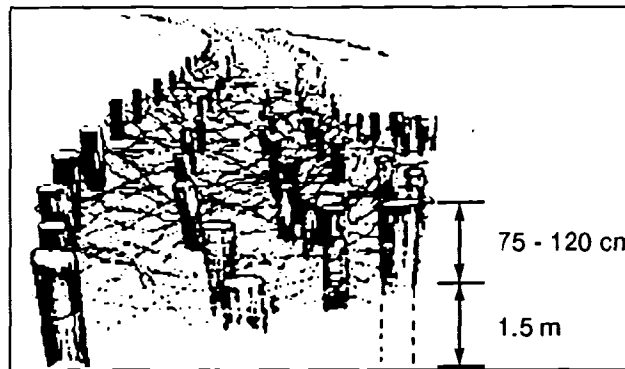

Figure 052-195-3066-11. Log Post Obstacle
- (2) Three logs 25 centimeters in diameter or one log 45 centimeters in diameter are used.
- (3) Logs are staked firmly in place. Ensure stakes are no more than 1.5 meters apart.
- (4) The log poles are lashed to the stakes with wire.
- (5) The securing stakes are buried a minimum of 60 centimeters in the ground with 60 centimeters remaining above ground.
- d. Direct the construction of a log post obstacle (figure 052-195-3066-11). Ensure—